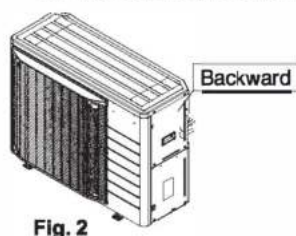

Fig. 2
- The refrigerant piping can be connected from backside for RZFQ90,100AV16 & RZV/MFQ90,100AV16. (See Fig. 2)